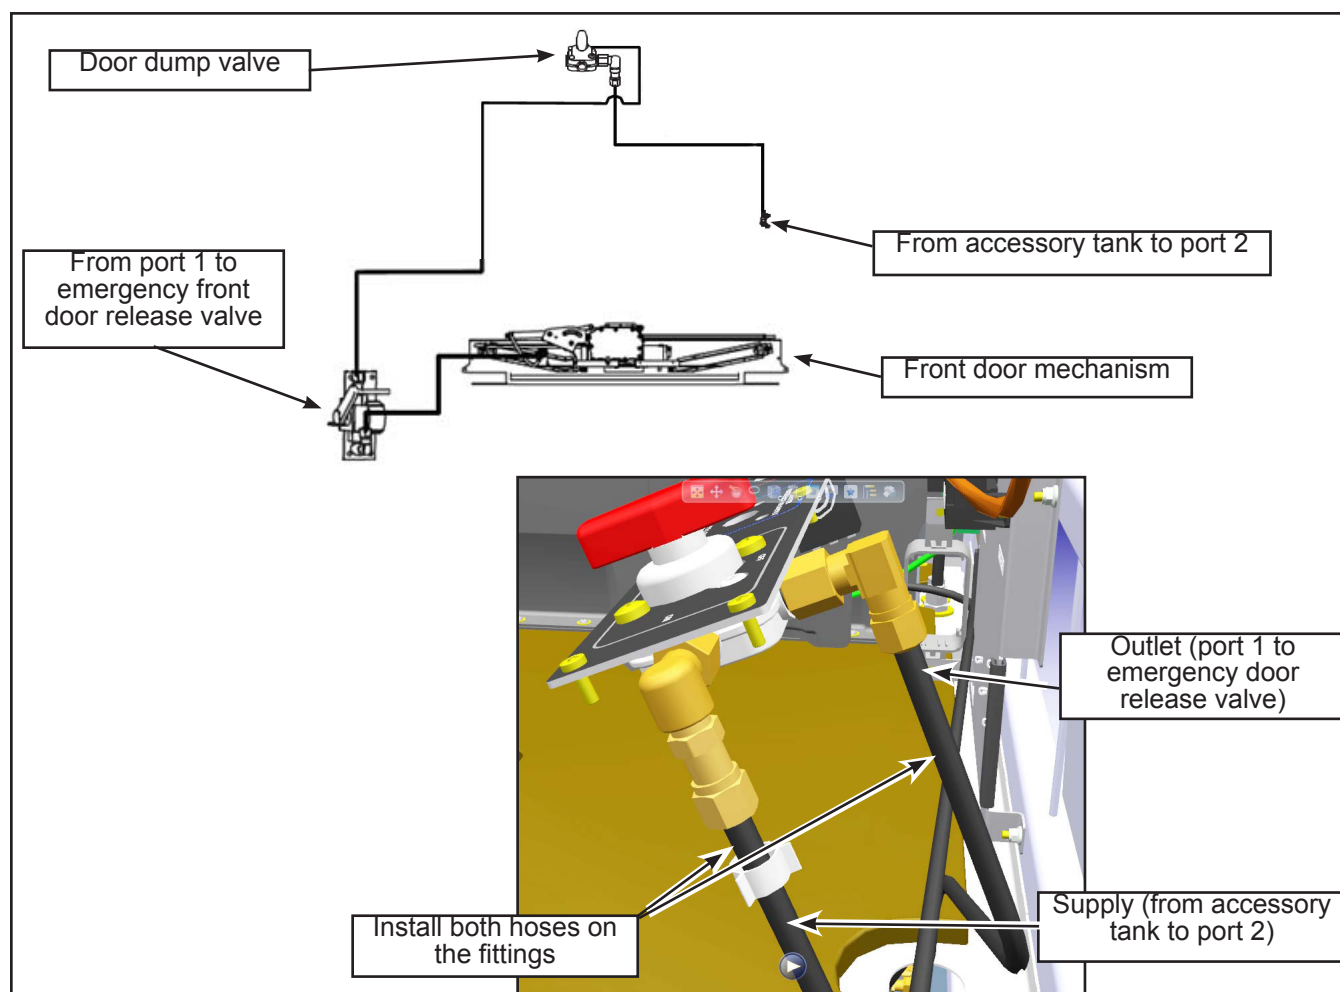

Figure 9 - Install Both Hoses on the Fittings
- 1.10. Install both hoses on the fittings of the new Massat valve (see Figure 9).